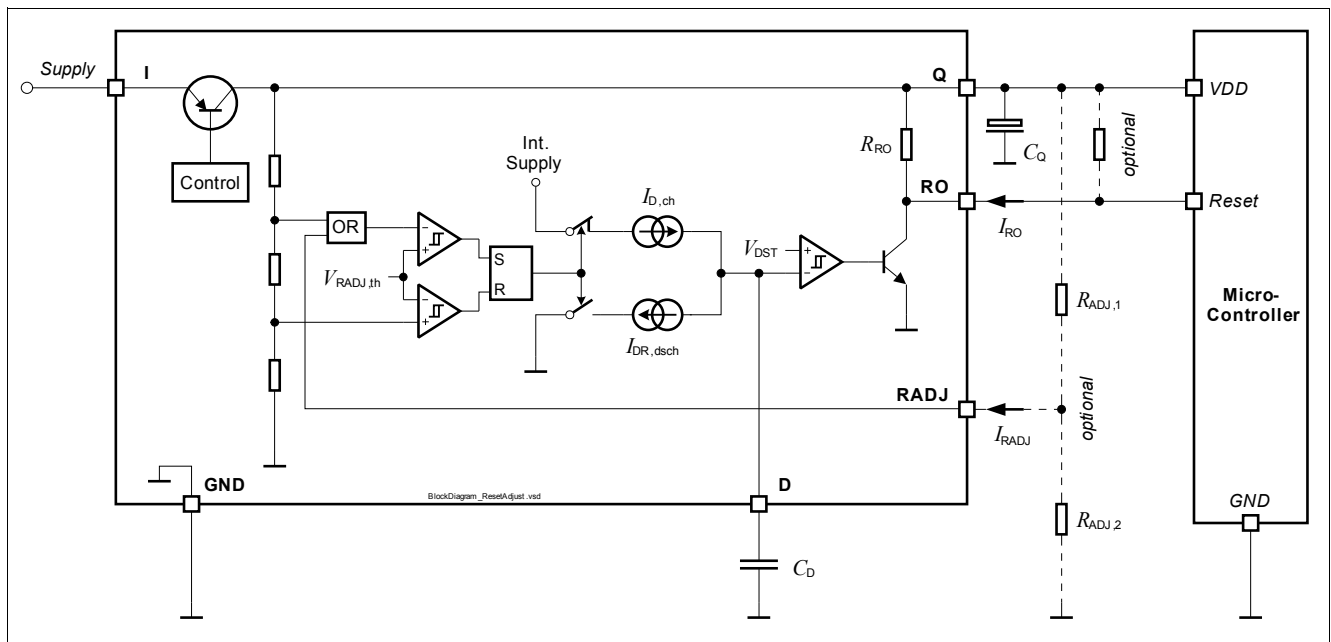

Figure 6 Block Diagram Reset Circuit
- $R_{ADJ,1}$ ,  $R_{ADJ,2}$ : Resistors of the external voltage divider, see Figure 6.
all voltages with respect to ground, direction of currents as shown in Figure 6 (unless otherwise specified).